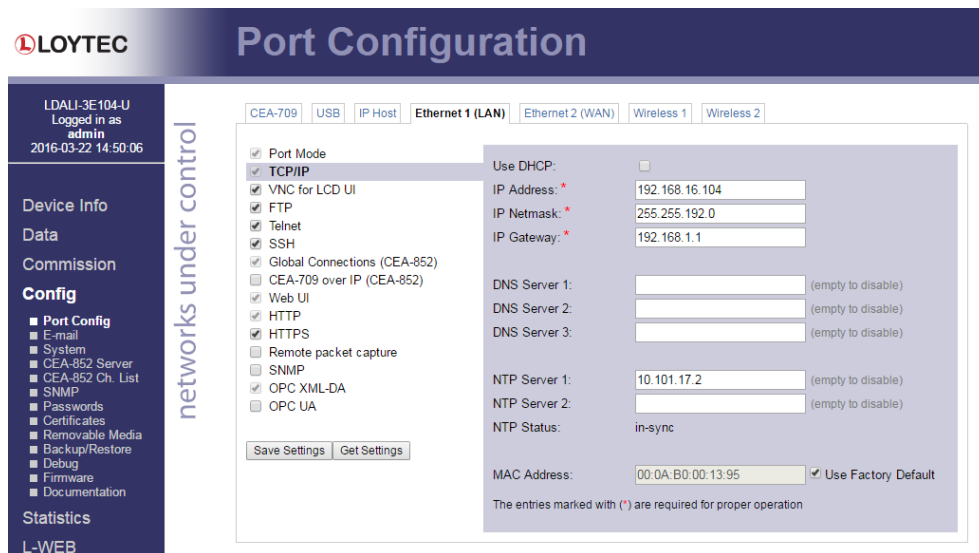

Figure 25: Enter IP address and gateway.
- The Config menu opens. Click on **Port Config** in the Config menu and select **Ethernet 1 (LAN)** tab. Enter the IP address, the IP netmask, and IP gateway for this device as shown in Figure 25.